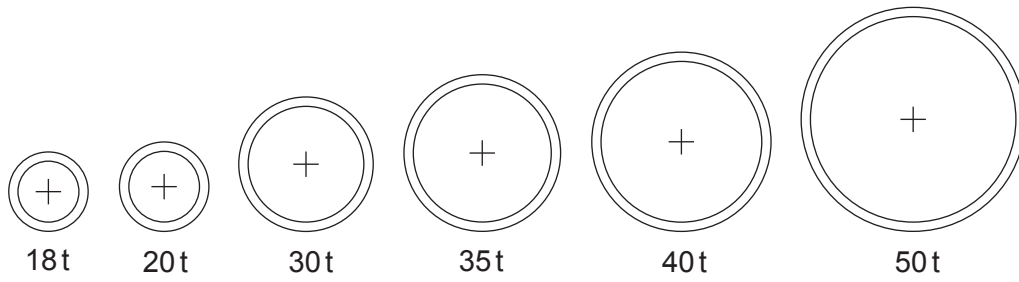

Fig. 10.5
- (d) Fig. 10.5 shows a range of spur gears. One gear of each size is available.